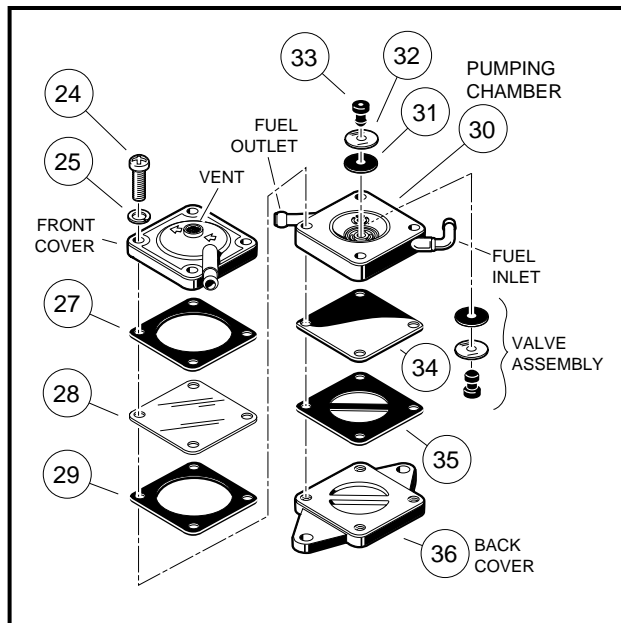
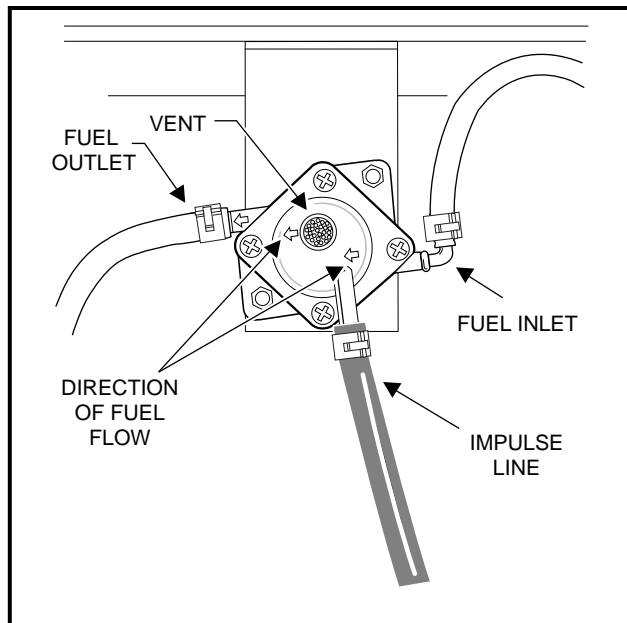

Figure 14-16 Fuel Pump
Figure 14-17 Fuel Pump Orientation
1. Remove four screws (24) and lock washers (25) from front of the fuel pump (**Figure 14-16, Page 14-22**).
3. Note the orientations of the impulse gasket (27), the diaphragm (28), and the gasket (29), then remove them from the pump (**Figure 14-16, Page 14-22**).
4. If the impulse gasket (27) and the diaphragm (28) come off with the front cover, note their orientations and remove them (**Figure 14-16, Page 14-22**).
5. Remove the pumping chamber (30) (**Figure 14-16, Page 14-22**).
6. Remove the back cover (36), the fuel diaphragm (34) and gasket (35) (**Figure 14-16, Page 14-22**).
2. Inspect the valve assemblies (31, 32, and 33) and all gaskets and diaphragms for damage (**Figure 14-16, Page 14-22**).
3. If a valve assembly is damaged, the rubber retaining plug (33) and valve assembly must be replaced (**Figure 14-16, Page 14-22**).
1. Install the fuel gasket (35) and diaphragm (34) on the back cover (36) (**Figure 14-16, Page 14-22**).
2. Install the valve assembly in the pumping chamber (30) (**Figure 14-16, Page 14-22**). See following **CAUTION**.
3. Install the pumping chamber (30) on top of the fuel diaphragm (34). Be sure the fuel inlet and the fuel outlet align with the arrows on the front of the front cover (**Figure 14-16, Page 14-22**).
4. Install the gasket (29), clear impulse diaphragm (28), and the paper impulse gasket (27) to the pumping chamber (30) (**Figure 14-16, Page 14-22**).
5. Install the front cover and then the lock washers (25) and four screws (24) on the assembly (**Figure 14-16, Page 14-22**). Be sure the arrows on the front cover point from the fuel inlet to the fuel outlet (**Figure 14-17, Page 14-22**). Tighten the screws to 26 in-lb (3.0 N·m).
NOTE: Be sure to connect the fuel line (2), that comes from the primary fuel filter (17), to the inlet nipple on the pump. Direction of fuel flow is indicated by the arrows on the fuel pump (**Figure 14-15, Page 14-20**). **See also Figure 14-17, Page 14-22.**